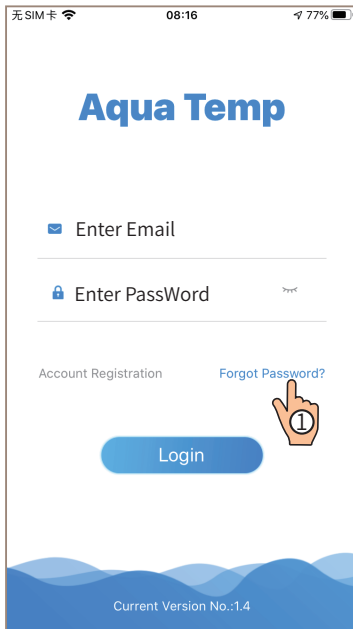
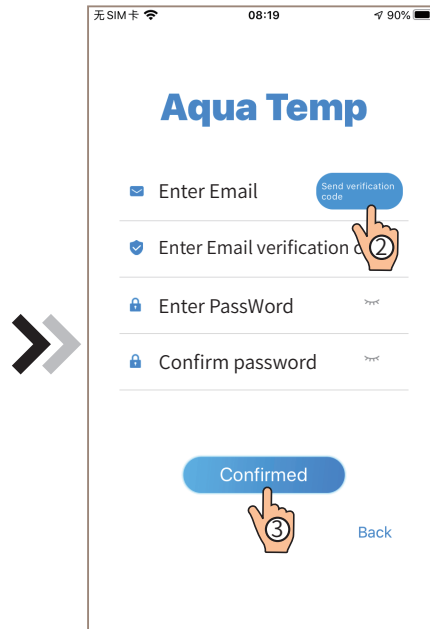

Fig.6 Login interface
Fig.7 Retrieve Password interface
Forgot Password: While forget your password, click ① (Fig.6), jump to the Forgot Password interface (Fig.7). Follow the instructions on the page, fill in the relevant informations, click ② to receive verification code from your mailbox, click ③ to confirm and password reset is done.